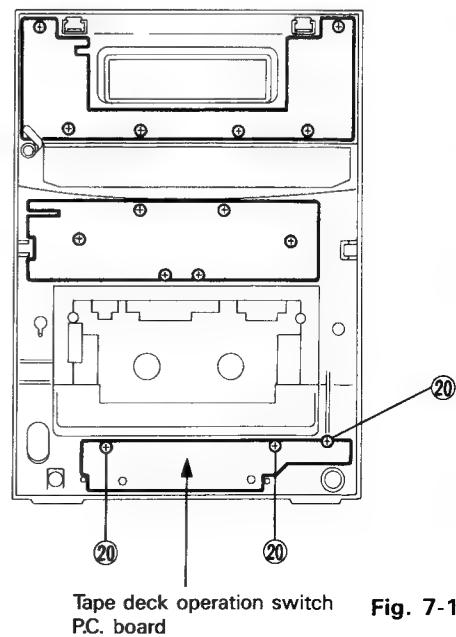

Fig. 7-18
4. Remove the three screws ⑯ retaining the tape deck operation switch P.C. board (Refer to Fig. 7-18).